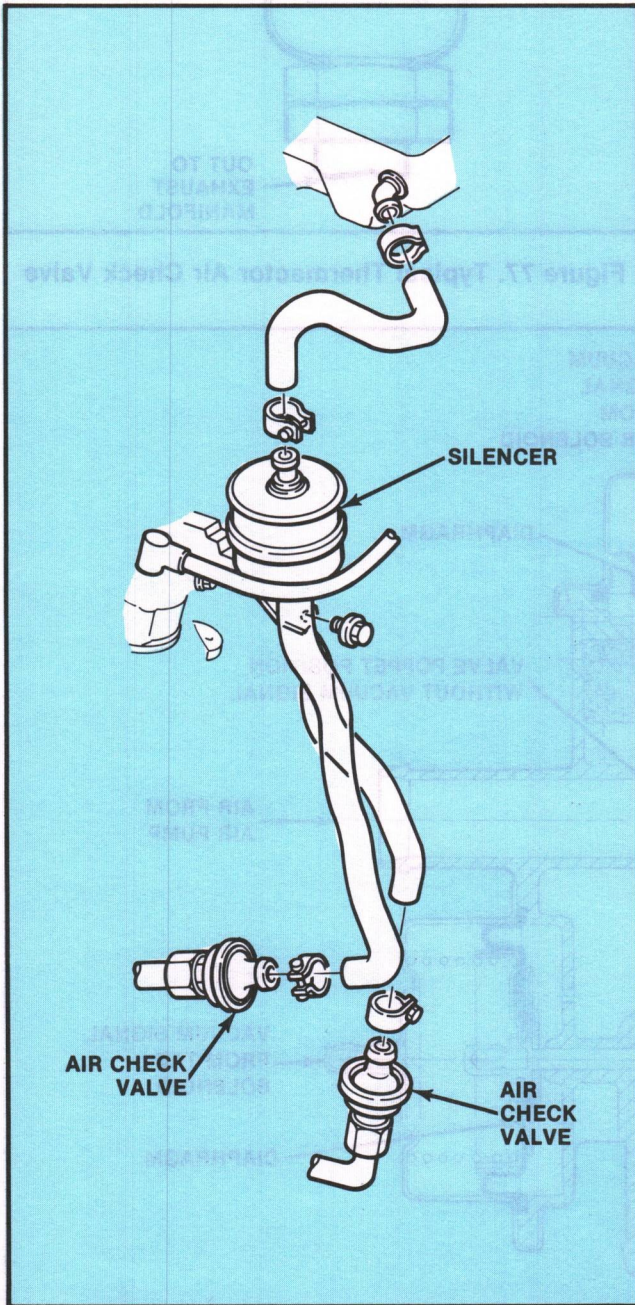

Figure 78. Typical Thermactor II or Pulse Air System
The Thermactor II (Fig. 78) or pulse air system differs from a managed Thermactor system in that it has no air pump. In operation, the system uses the natural pulses present in the exhaust system to "pull" air from the air cleaner and into the catalytic converter.
- An air check valve and silencer (Fig. 78) are connected in-line between the air cleaner and the catalytic converter.